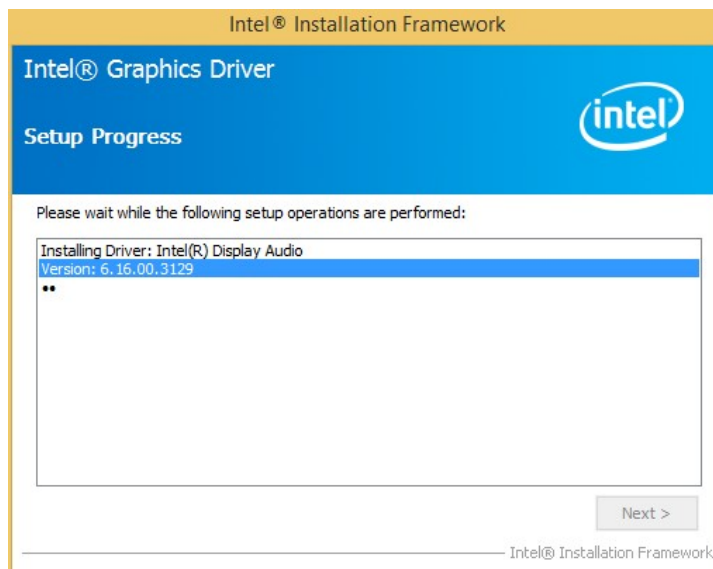

Figure 6-11: Graphics Driver Installation Finish Screen
Step 9: Setup Operations are performed as shown in Figure 6-11.